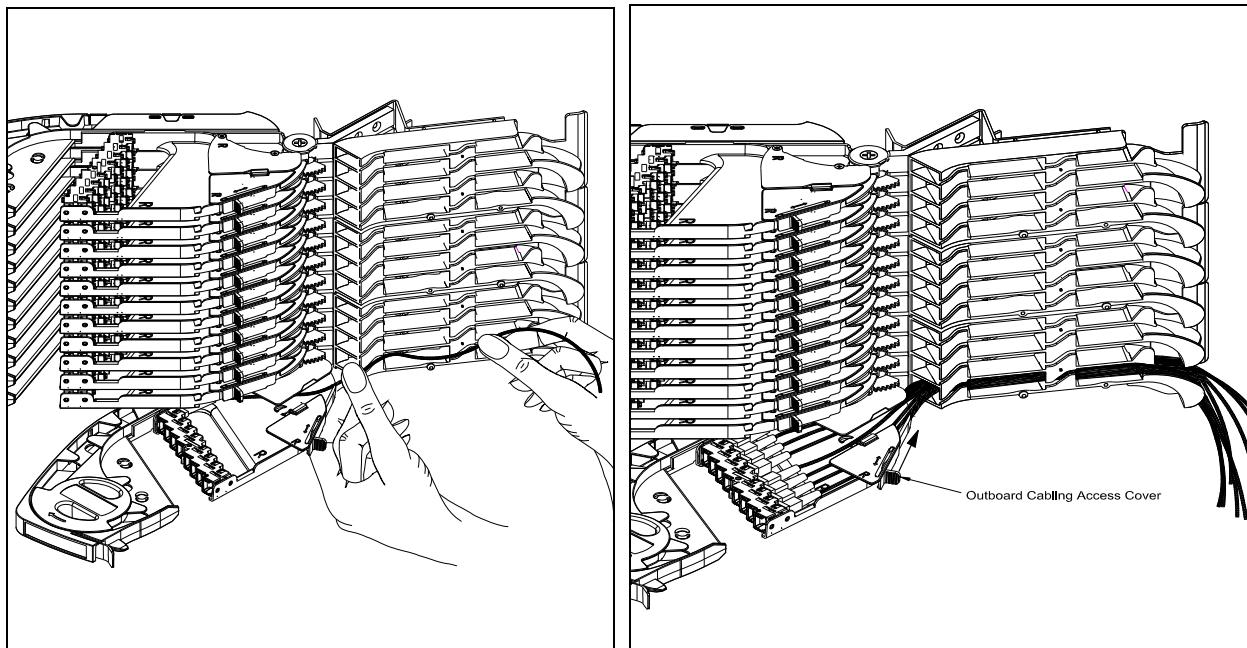

Figure 47 - Cable Routing through Channel to Rear of Module
6. Route the cable through the channel and then cascade at the rear of the module, as shown in Figure 47.